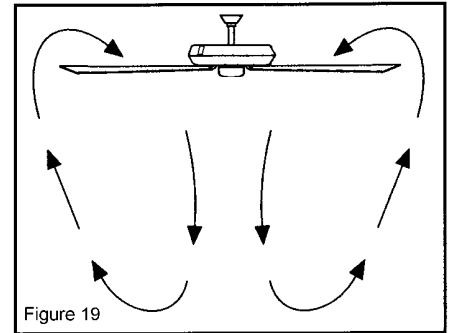

Figure 19
**Warm weather** – (Forward) A downward air flow creates a cooling effect as shown in Figure 19. This allows you to set your air conditioner on a higher setting without affecting your comfort.